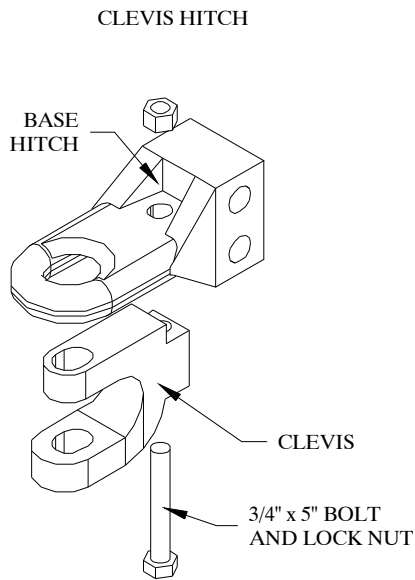
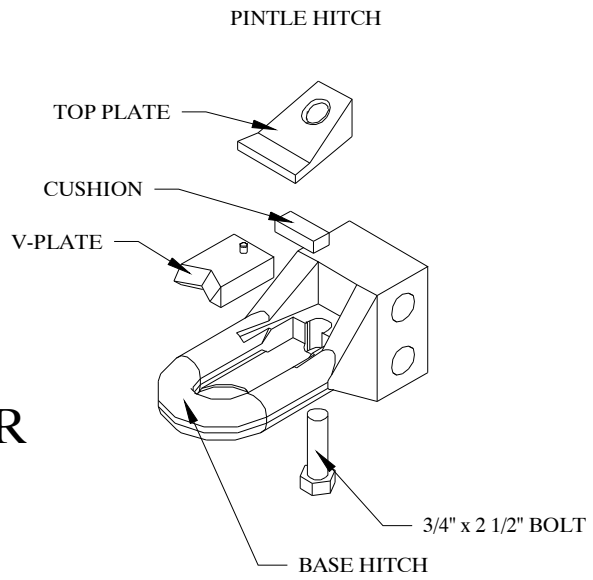

Figure 2
Figure 3
4. Assemble either a clevis hitch (figure 2) or a pintle hitch (figure 3) as required by the tractor or towing vehicle. Note the opposite orientation of the base hitch for each hitch type. Attach the hitch assembly to the Main Frame with two 1" x 6 $\frac{1}{2}$ bolts and locking nuts.